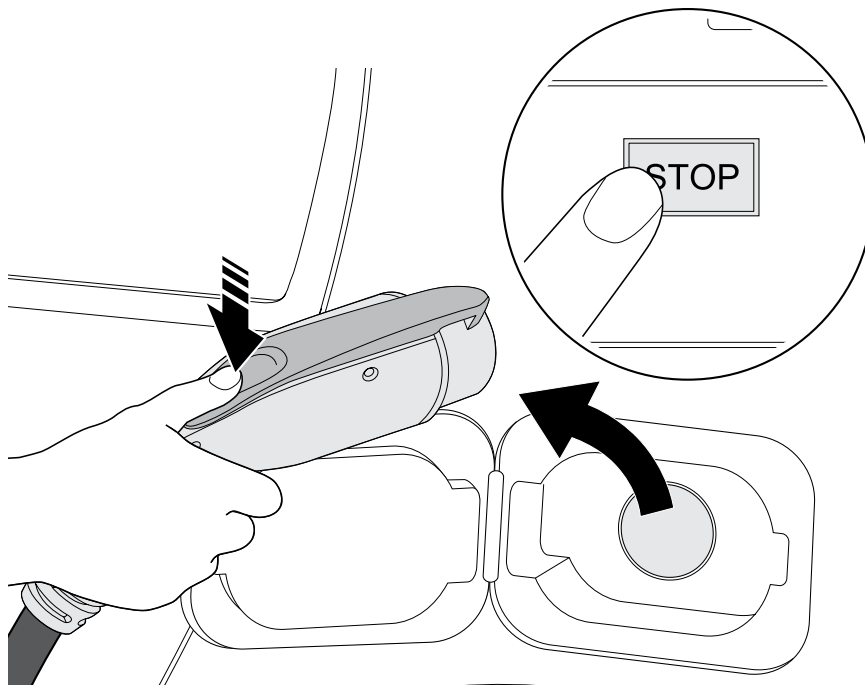

Figure 6-3. Stop charging
3. See Figure 6-3. To stop charging before charging is complete, disconnect the charging plug from the EV or press the “Stop” button. Remove and reconnect the charging plug with the EV to start charging again.